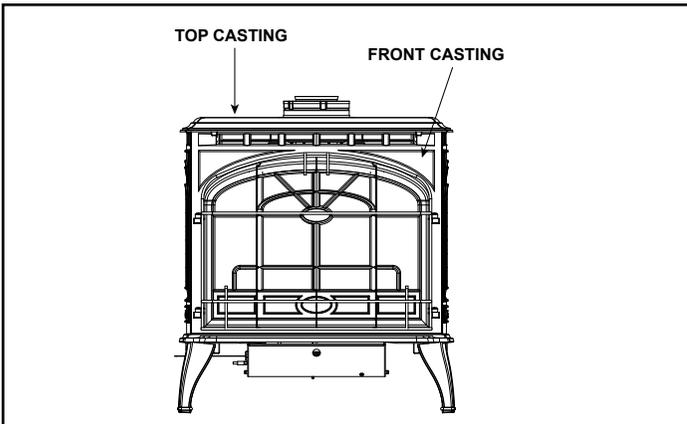

Figure 6.10 Remove Casting
- Remove safety barrier and front casting, if not previously removed, by grasping it at the top and lifting up. The top casting may need to be lifted slightly to accommodate removal of the front casting. See Figure 6.10.